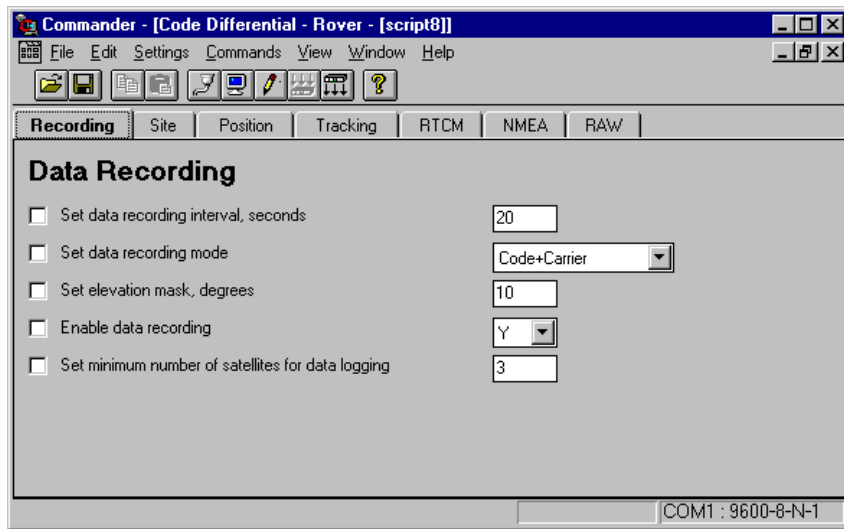

Figure 2.17: Recording Tab
2. A **Survey Application** window opens corresponding to the survey option you choose with the **Recording** tab active (Figure 2.17).